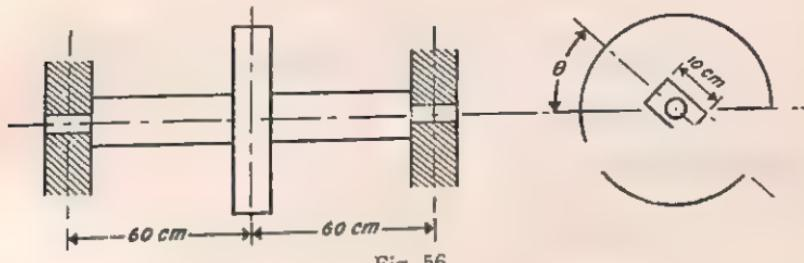

Fig. 56
5. A steel bar of rectangular section $10 \text{ cm} \times 4 \text{ cm}$ is supported in bearings and carries a load of $1,000 \text{ kg}$ at mid-span. If as indicated in Fig. 56 the beam is rotated slowly, find the inclination θ when the bending stress in the bar reaches its greatest value. Determine the value of the greatest bending stress and the vertical deflection at mid-span when this stress occurs. Assume the bar is direction-free at the supports. $E = 2 \times 10^6 \text{ kg/cm}^2$. (Lond. Univ.)